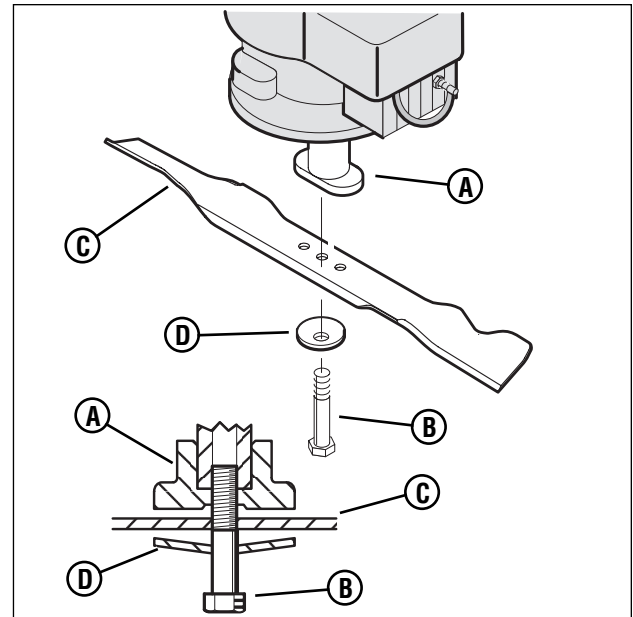

Figure 22: Removing the blade
Frequently check the blade for wear or damage such as cracks. Frequently check the bolt that holds the blade. Keep the bolt tight. If the blade hits an object, stop the engine. Disconnect the wire to the spark plug. Check the blade adapter (**A**, **Figure 22**) for damage. Check for a bent or damaged blade, a badly worn blade, or other damage. Before you operate the unit, damaged parts must be replaced with factory replacement parts. For safety, replace the blade every two years. Keep a sharp edge on the blade. A blade that is not sharp will cause the ends of the grass to become brown. Remove the blade as follows.
4. Remove the bolt (**B**, **Figure 22**) that holds the blade with a 9/16" (14mm) wrench.